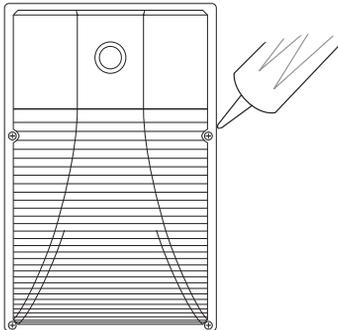

Figure 5
9. Caulk around the light fixture edges with silicone weather sealant (Figure 5).